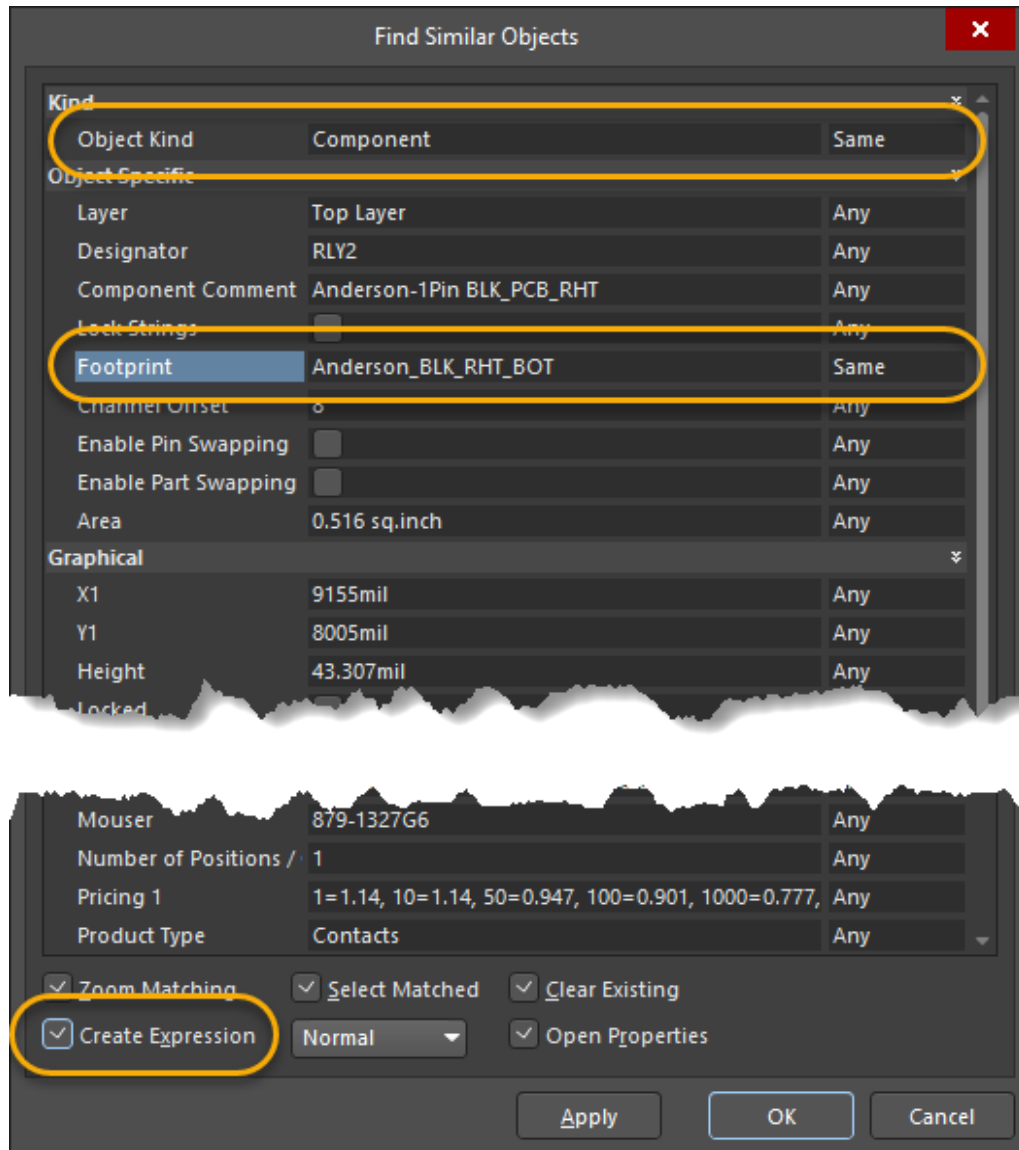

Figure 9. Find Similar Objects dialog
27. Ensure that *Object Kind* and *Footprint* are set to **Same**, and the **Create Expression** checkbox is enabled as shown in Figure 9. Then, click **OK**.